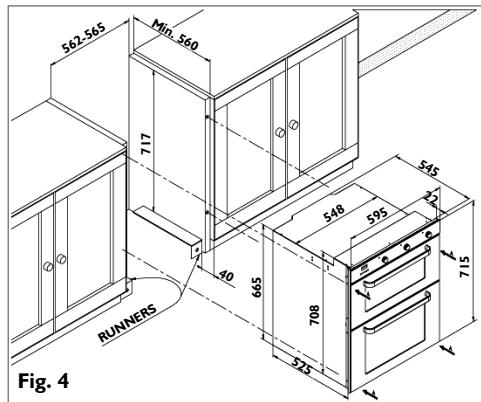

Fig. 4
- Between two side panels each fixed to the side of a cabinet unit without the aid of a support shelf. In this case only the two lower support brackets will be necessary (fig. 4).